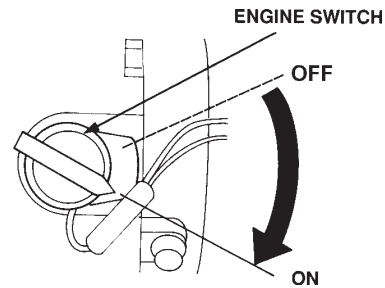

Figure 19. Engine ON/OFF Switch
4. Place the engine ON/OFF switch (Figure 19) in the **ON** position position.